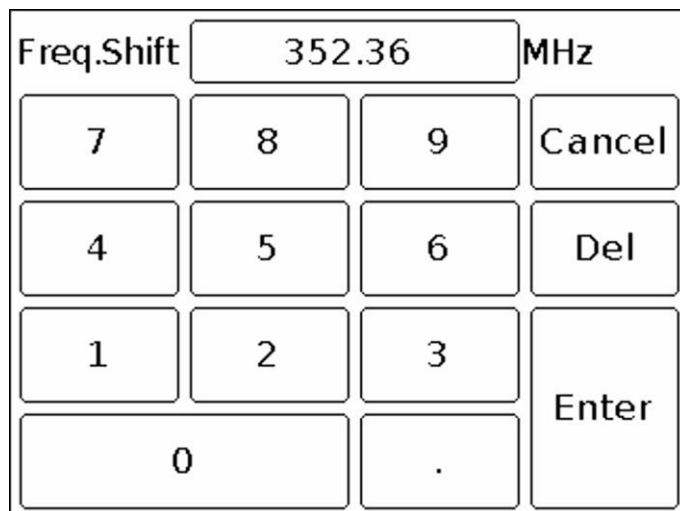

Figure 24 – Entering the value of the scale shift in frequency
7.9.4. When using an external frequency converter, to correctly indicate the frequency of the input signal, enter the value of the scale shift **Freq. shift**. as shown in figure 24.
Setting the value of the shift of the input signal frequency **Freq. shift**, is made by entering a numerical value in the submenu that opens, as in figure 24. Enter the numerical value of the frequency and press **Enter**. To delete erroneous or previously entered values, press **Del**. To refuse to enter a value, click **Cancel**.